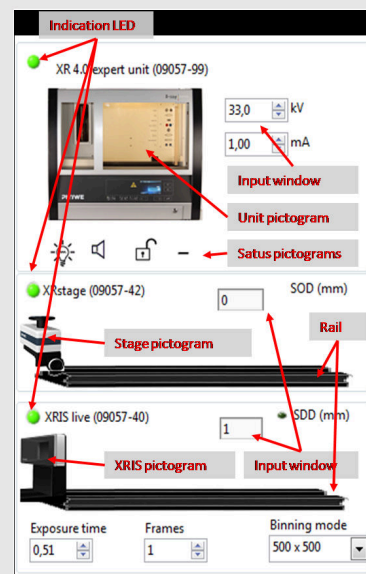

Fig. 3: Part of the user interface of the software
- Start the “measureCT” program. A virtual X-ray unit, rotation stage and Detector will be displayed on the screen. The green indication LED on the left of each components indicates that its presence has been detected (Fig. 3)
- You can change the High Voltage and current of the X-ray tube in the corresponding input windows or manually on the unit. (Fig. 3)
- When clicking on the unit pictogram additional information concerning the unit can be re-trieved(Fig. 3).
- The status pictogram indicate the status of the unit and can also be used to control the unit such as switching on and off the light or the X-rays (Fig. 3).
- The position of the digital detector can be adjusted to its real position either by moving the XRIS pictogram or by filling in the correct value in the input window. (Fig. 3).